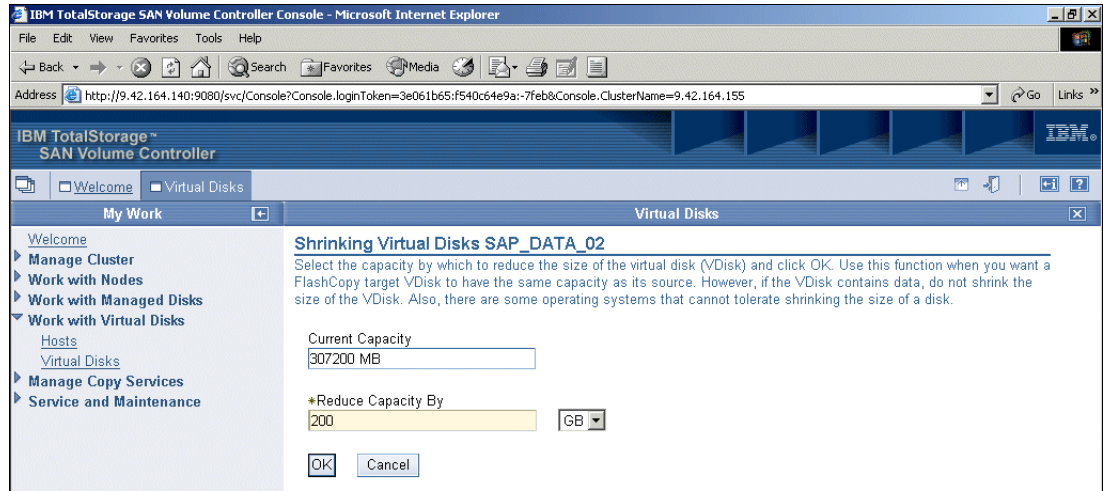

Figure 9-74 Shrinking a vDisk
3. The Shrinking Virtual Disks *vDiskname* panel (where *vDiskname* is the vDisk you selected in the previous step) opens as shown in Figure 9-74. In the Reduce Capacity By field, enter the capacity you want to reduce. Select MB or GB accordingly. The final capacity of the vDisk is the Current Capacity minus the capacity that you specify.